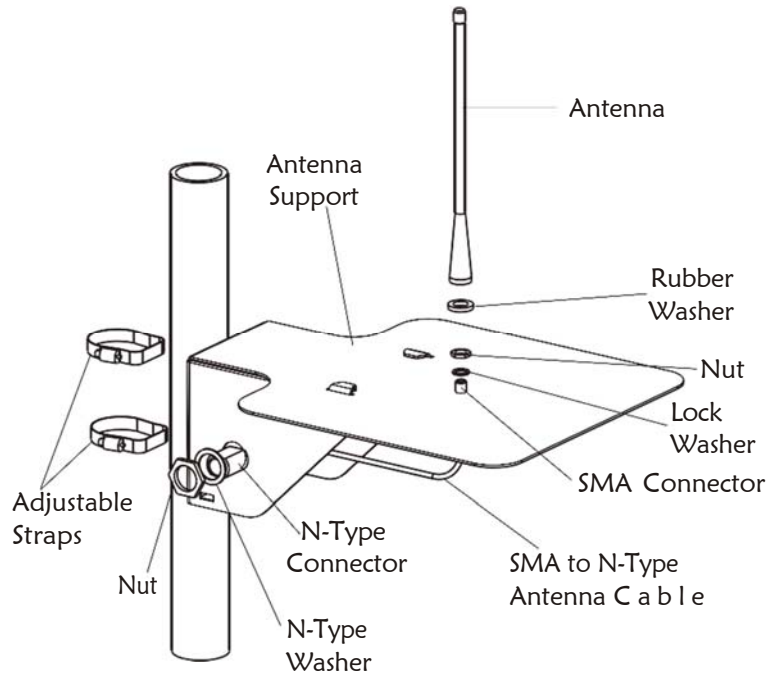

Figure 28
1. Connect a flexible antenna to the antenna support plate using rubber washers, lock washer and a nut (see Figure 28).